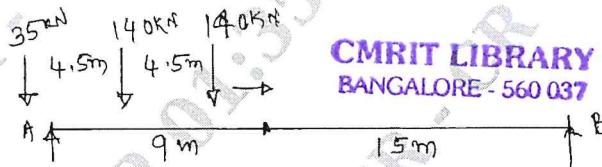

Fig.Q9(b)
b. To determine maximum moment at C and absolute maximum moment for the beam shown in Fig.Q9(b) when series of concentrated loads shown moving from left to right.